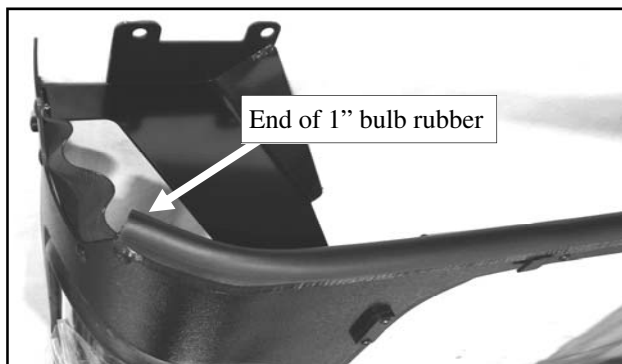

Fig. 2.1a (top rear of side frame)
2.1 Per figures 2.1a and 2.1b, install the supplied 1" round bulb rubber (52" long) along the top of each side frame assembly as shown.